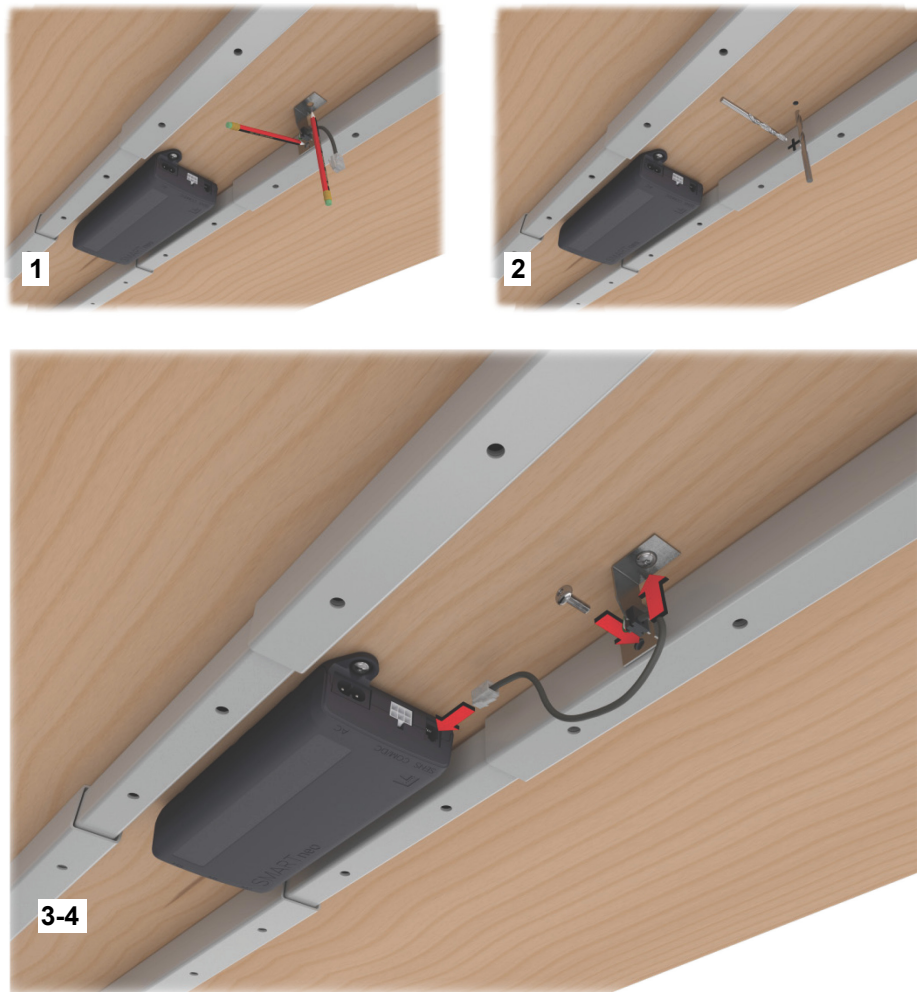

Figure 42 Mounting and connecting the sensor to the SMARTneo-pro control unit
Mount the sensor bracket marked with the yellow dot to the underside of the tabletop. Mount the second bracket to the table frame (as shown in Figure 42).
**4** Connect the cable of the sensor unit to the SMARTneo-pro control unit (see Figure 42).